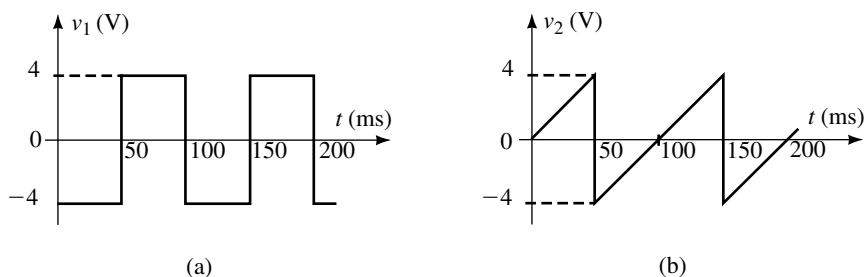

FIGURE 25-58
13. A composite waveform is made up of the two periodic waves shown in Figure 25-58.